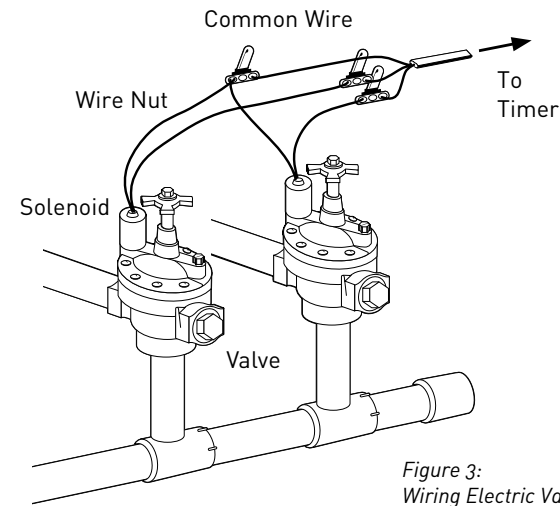

Figure 3: Wiring Electric Valves
- Connect the remaining wire from each valve to a separate colored sprinkler wire. See Figure 3